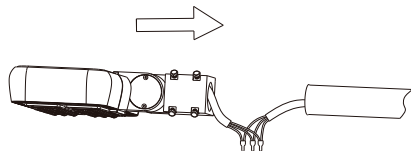

Figure 2
2. Connect the wire of fixture to main power supply according to local electric connection code (figure 2), make sure good protection on the wire connection